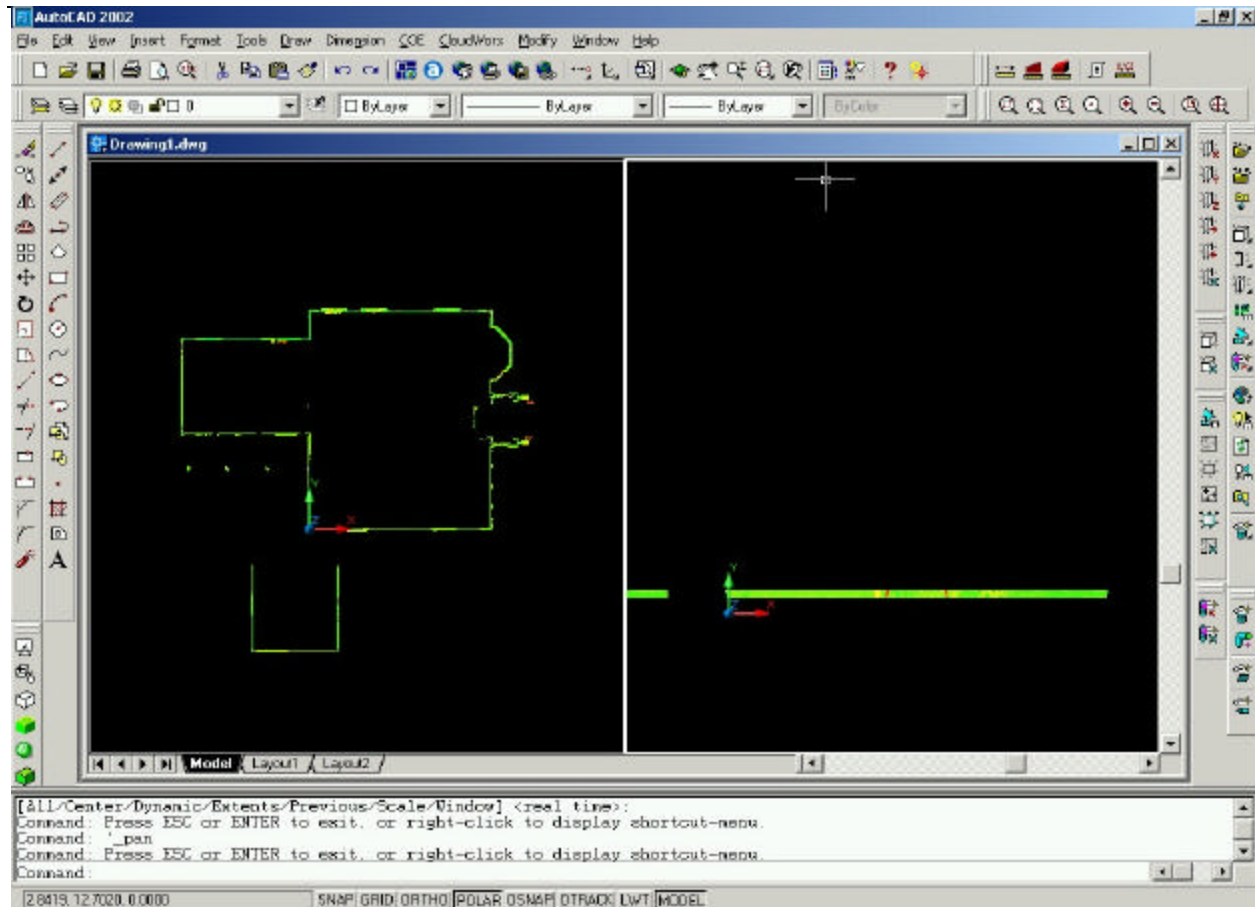

fig 4.1.3
5. Point clouds outside this defined slice are clipped from view. Your view should resemble Fig 4.1.3, thus creating a cross section representing the ground plan of the building.